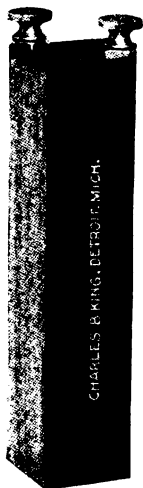

Fig. 43.
**A CONCENTRATOR** is shown in Figure 43. By the use of this device shunted or connected to your present ignition system it has been actually demonstrated that it will cause a spark to jump at your plug terminus, no matter how sooty your plug may be.